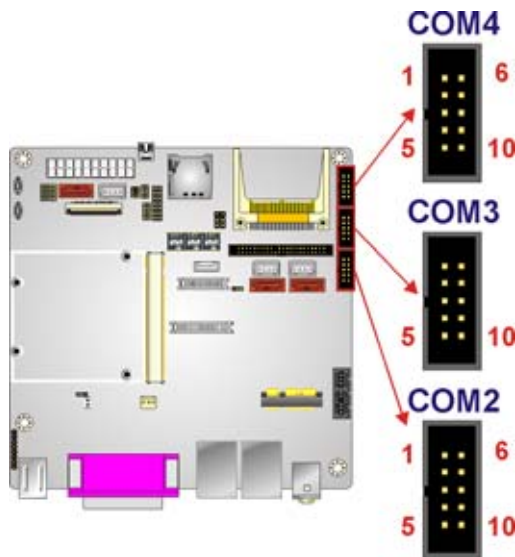

Figure 4-19: Serial Port Connector Locations
- CN Location:** See Figure 4-19